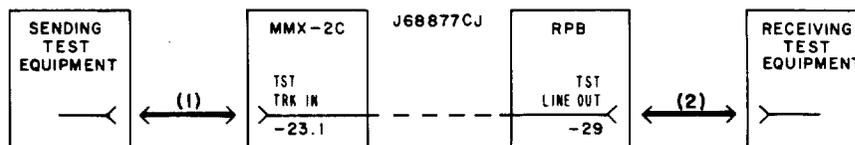

Fig. 8—Receiving Test Line Out Trunk for MMX-2
4	Make patches designated (1) and (2) in Fig. 8.